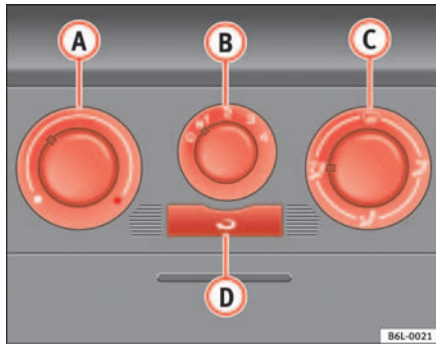

Fig. 91 On the dash panel: Heater controls
- Turn the temperature selector ⇒ fig. 91 ① anti-clockwise.
- Turn blower switch ⑦ to speed settings 1-4.
- Set the airflow to the desired direction using air distribution control ③.
- Turn the temperature selector ⇒ fig. 91 ① clockwise to select the required temperature.
- Turn the temperature selector ⇒ fig. 91 ① clockwise to the maximum temperature.
- Turn the blower switch ⑦ to setting 4.
- Set air distribution to ④.
- Close outlet ③.
- Open and turn outlet ④ towards side windows
- Turn the temperature selector ⇒ fig. 91 ① to the heating zone.
- Turn blower switch ⑦ to speed settings 2-3.
- Close outlets ③.
- Open and turn outlets ④ towards side windows.